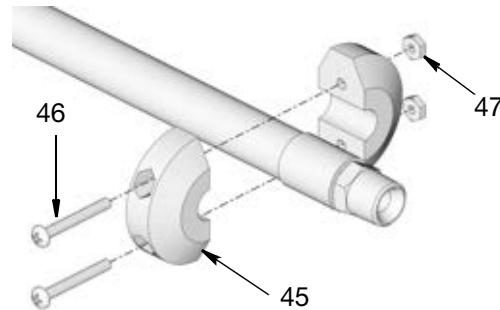

FIG. 18
4. Remove the dispense valve, nuts (47), screws (46) and ball stop (45) from end of hose (FIG. 18).
4. Remove the dispense valve, nuts (47), screws (46) and ball stop (45) from end of hose (FIG. 18). Cap